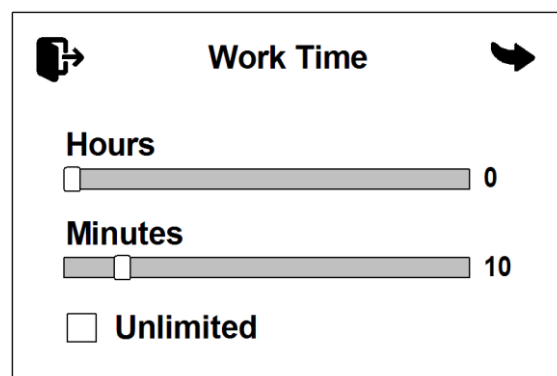

Fig. 10. Operating time settings
**Operating time settings** (Fig. 10).